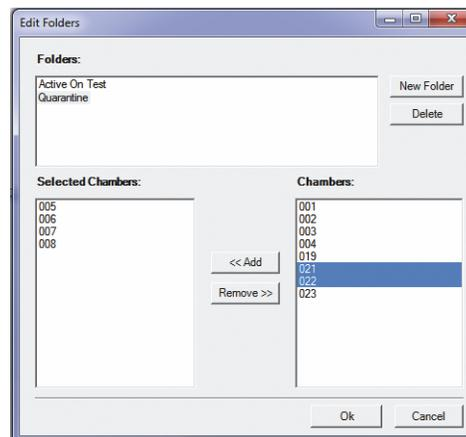

Figure 3-4 Folder Editing
2. Select **New Folder**, and then enter a custom folder name. Custom folder names will be displayed in the lower section of the **Chambers** panel (Figure 3-4).